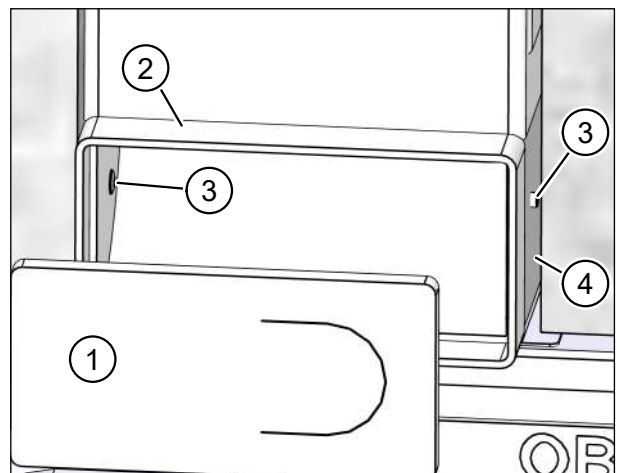

Fig. 23: Riveting the 90° bracket to fixing plate
- ▶ Remove the plaster cover for the bracket (item 1 in Fig. 23).
- ▶ Use the riveter to fix the 90° bracket (item 2 in Fig. 23) to the fixing plate (item 4 in Fig. 23) with two blind rivets (item 3 in Fig. 23).
- ▶ Push the plaster cover (item 1 in Fig. 23) back into the bracket (item 2 in Fig. 23).